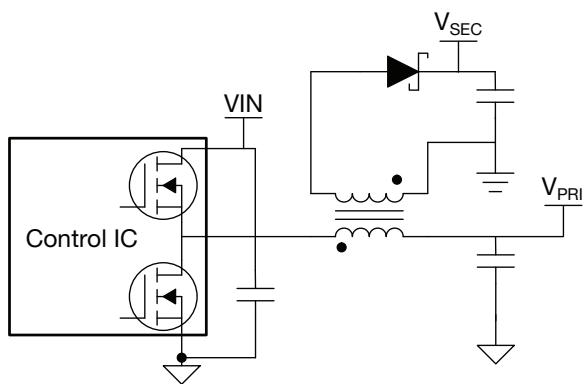

Figure 3. A Fly-Buck™ converter.
A Fly-Buck converter is a Texas Instruments-specific topology used to create an isolated bias supply. It is capable of operating from input voltages as high as 100 V. Like a flyback converter, metal-oxide semiconductor field-effect transistors (MOSFETs) are typically integrated inside the integrated circuit (IC), and it is very simple to realize primary-side control. **Figure 3** shows a Fly-Buck converter. The topology uses a synchronous buck converter with a coupled inductor to create one or multiple isolated outputs. When the high-side switch is on, the primary side works like a buck converter and the secondary winding current is zero. In the off-state when the low-side switch is on the secondary side is driven from energy stored in the primary.